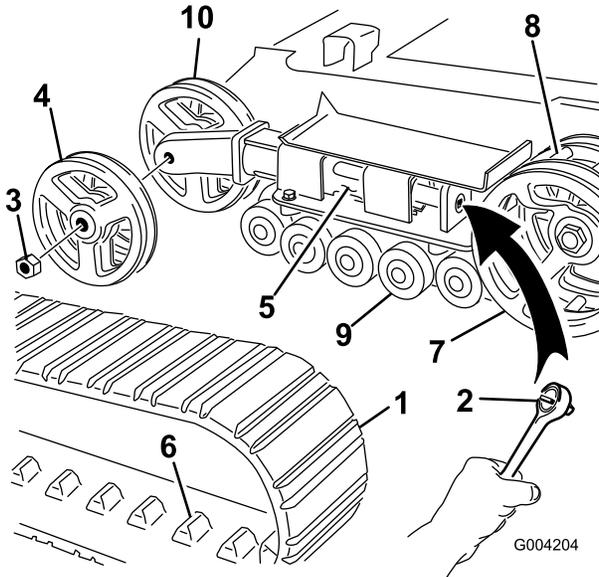

Figure 42
4. Using a 1/2 inch drive socket wrench, release the drive tension by turning the tensioning screw clockwise (Figure 40 and Figure 42).
5. Push the tension wheel toward the rear of the unit to move the tension tube against the frame (Figure 42). (If it does not touch the frame, continue turning the tensioning screw until it does.)
6. Remove the nut securing the outer tension wheel and remove the wheel (Figure 42).
7. Remove the track (Figure 42).
8. Remove the nut securing the inner tension wheel and remove the wheel (Figure 42).
12. Install the inner tension wheel and secure it with the nut removed previously (Figure 42).
14. Install the new track, ensuring that the lugs in the track fit between the cogs in the middle of the drive sprocket (Figure 42).
15. Install the outer tension wheel and secure it with the nut removed previously (Figure 42).